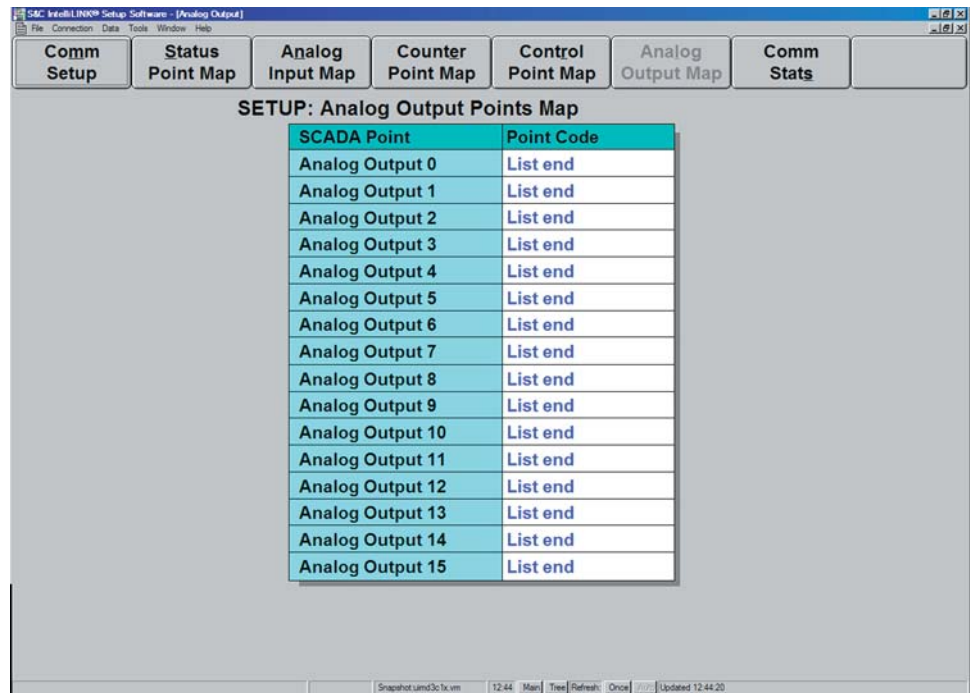

Figure 19. SETUP: Analog Output Points Map for the Universal Interface Module.
19. From the PRESENT CONDITIONS screen select the Comm Menu button, and select the Analog Output Map button to display the SETUP: Analog Output Points Map (Figure 19). Enter the correct values for the Interface Module.